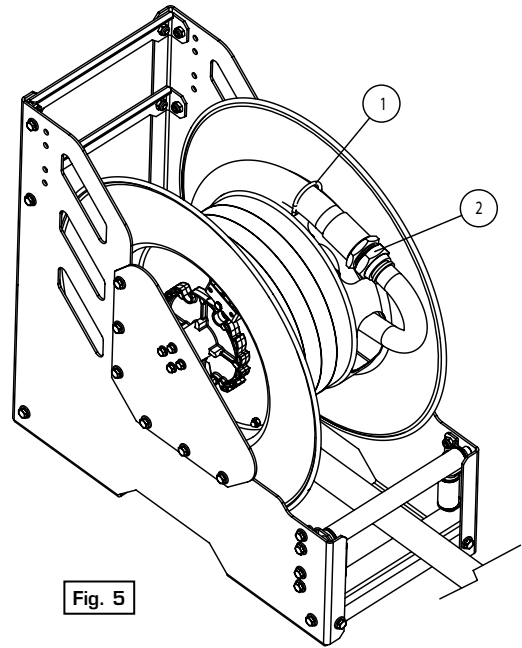

Fig. 5
2. Connect the new hose to the gooseneck (2) (fig. 5), place the U-bolt (1) (fig. 5) in such a way that it firmly holds the hose against the spool, and start to wind the hose into the spool turning the spool manually.
2. Conecte la nueva manguera al cuello de ganso (2) (fig. 5), coloque el abarcón (1) (fig. 5) de modo que sujete a la manguera contra el tambor firmemente y comience a recoger la manguera girando el tambor manualmente.
2. Remove the U-bolt (1) (fig. 5) by loosening its nuts and disconnect the hose from the gooseneck (2) (fig. 5).
2. Retire el abarcón (1) (fig. 5) aflojando sus tuercas y desconecte la manguera del cuello de ganso (2) (fig. 5).